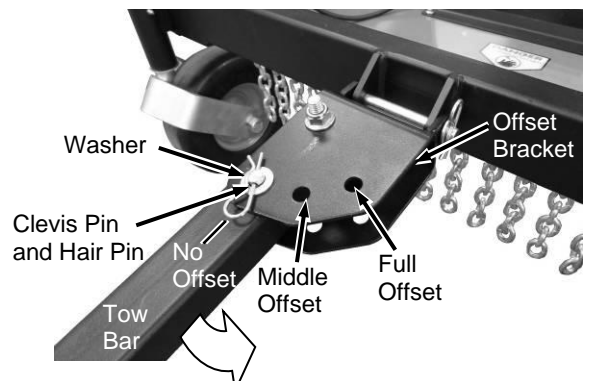

Figure 40
1. Remove Hair Pin, Washer, and Clevis Pin that secures Tow Bar in Offset Bracket (Figure 40).